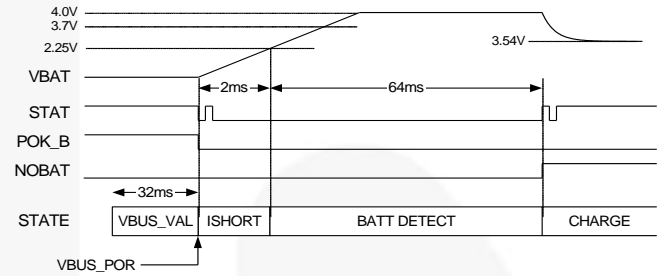

Figure 39. Battery Absent After VBUS POR
The FAN54020 detects if the battery is absent if V_{BAT} is below 2.25 V at the start of charging. To accomplish this, the IC raises V_{OREG} to 4.0 V for up to 128 ms after V_{BAT} is above 2.25 V. After 64 ms, V_{BAT} is compared to 3.7 V. If V_{BAT} rises above 3.7 V at any time in that 64 ms period, the battery is assumed to be absent (see Figure 39).
1. If $V_{BAT} < V_{SHORT}$, a battery absent/present test described in Figure 39 is performed;